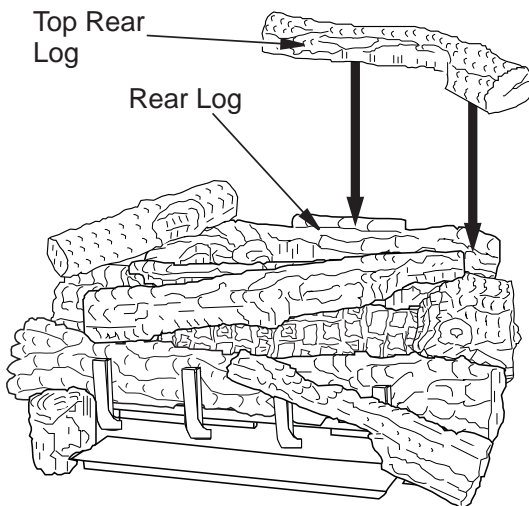

Figure 38 - Installing Top Rear Log
12. Place the top rear log (18" D-071, 24" & 30" D-045) onto the rear log as shown. The rear log has a projection that will fit into the recess area on the bottom of the top rear log (see **Figure 38**).